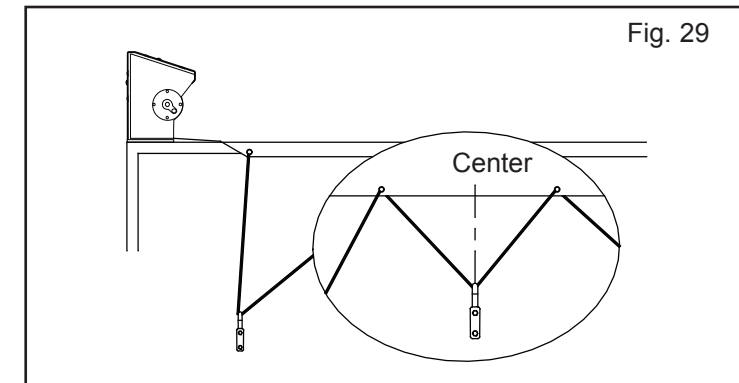

Fig. 29
2. Position middle hook between tie downs (Fig. 29).